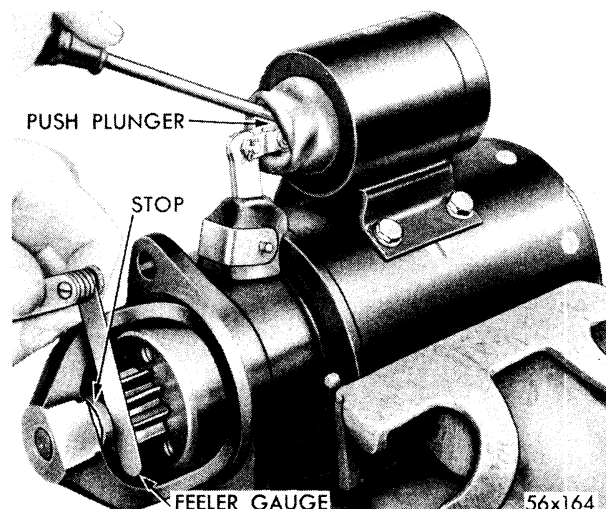

Fig. 5—Adjusting Starter Drive Pinion Clearance
15. ADJUSTING STARTER DRIVE GEAR (PINION) CLEARANCE (FIG. 5)
Place starter assembly in vise equipped with soft jaws and tighten vise sufficiently to hold starter. Push in on solenoid plunger link (**NOT THE FORK LEVER**) until plunger bottoms. Measure clearance between end of pinion and pin stop with plunger seated and pinion pushed toward commutator end (Fig. 5). The clearance should be $\frac{3}{32}$ inch, plus $\frac{1}{32}$ inch or minus $\frac{1}{64}$